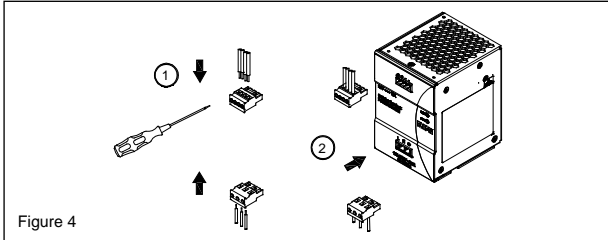

Figure 4
Caution: Must tighten wire to housing (Fig. 4 (1)) before plugging into the terminal block connection (Fig. 4 (2)).